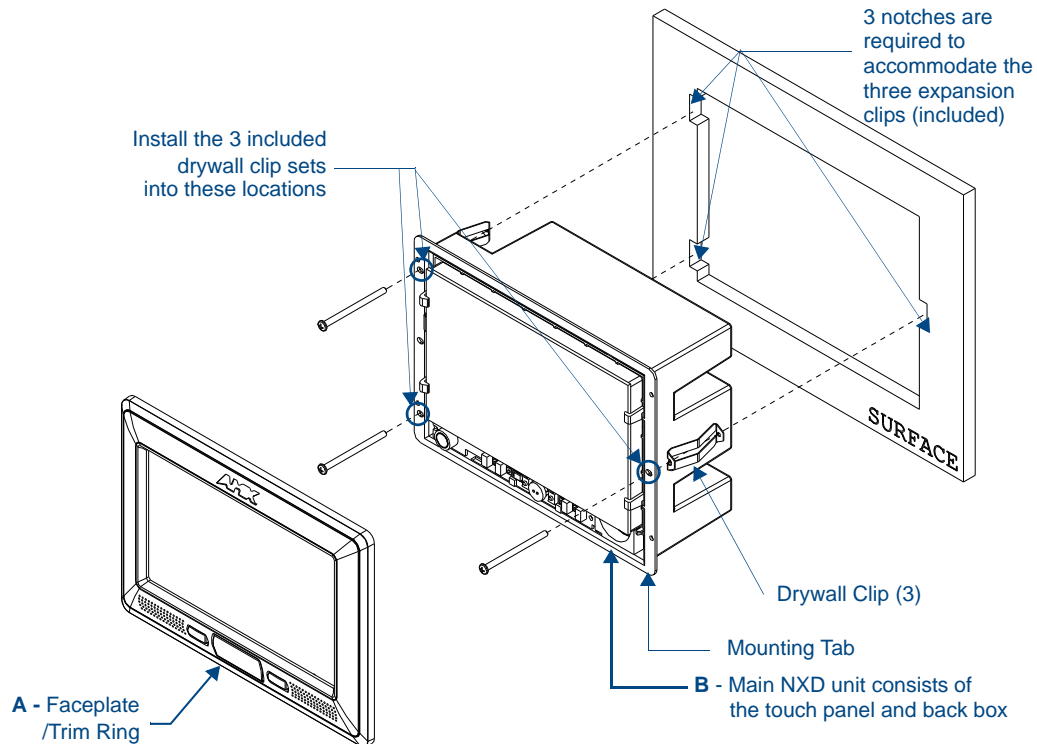

FIG. 14 Wall Mount panel (NXD) installation configuration for drywall surfaces
3. Remove the Faceplate/bezel (**A** in FIG. 14) from the main NXD unit (**B** in FIG. 14) by gripping the faceplate and pulling with gentle outward force.
8. Install the three sets of drywall screws and expansion clips into the three oval notch locations along both sides of the main unit (**B** in FIG. 14).
- 11.** Place the Faceplate/Trim Ring assembly (**A** in FIG. 14) back onto the main NXD unit (**B** in FIG. 14). *Make sure to align the Microphone, Light, and PIR Motion sensor locations to their respective openings on the front faceplate/bezel.*